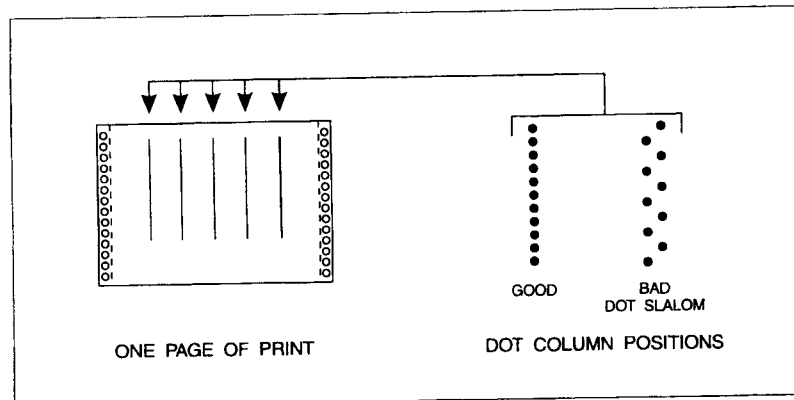

Figure 5-13. Dot Column Position
- d. If there is some "waviness" in the lines, perform the Hammer Flight Time adjustment. The dots making up the vertical lines should be directly over each other (see Figure 5-13), if they are straight, exit this procedure. If the dots are not straight, proceed to step "e".
- Press SELF-TEST and use the FINE ADJ key to select test 16. You may also use test 2 and/or 5. See figures 5-13 and 5-14.